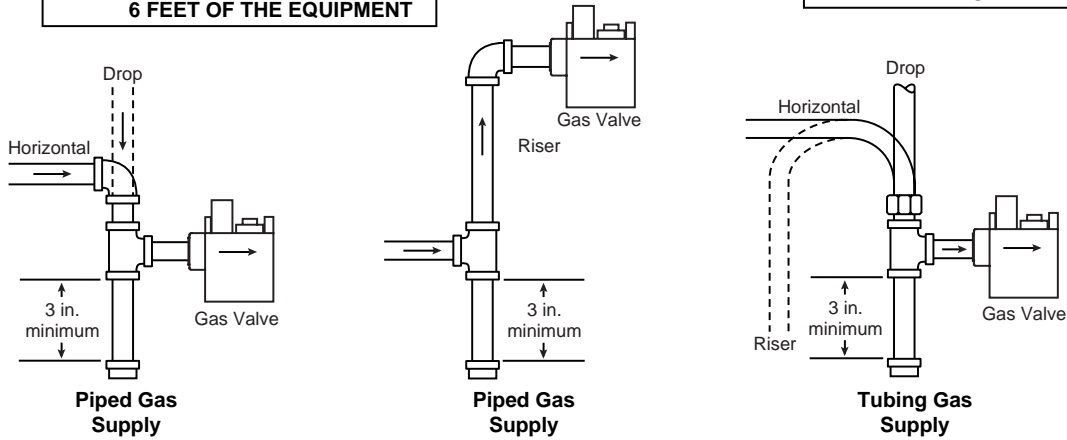

Fig. 2 – Typical gas valve piping
5. Apply pipe joint compound (pipe dope) that is approved for all gases, only to the male threads of the pipe joints. **DO NOT** apply compound to the first two threads (see figure 2 for typical piping connections).